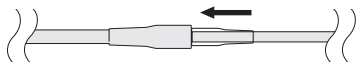

Figure 5. Sliding the strain-relief sleeve onto the connector pin.
- Slide the catheter strain-relief sleeve onto the connector pin until the strain-relief sleeve snaps into place (Figure 5).